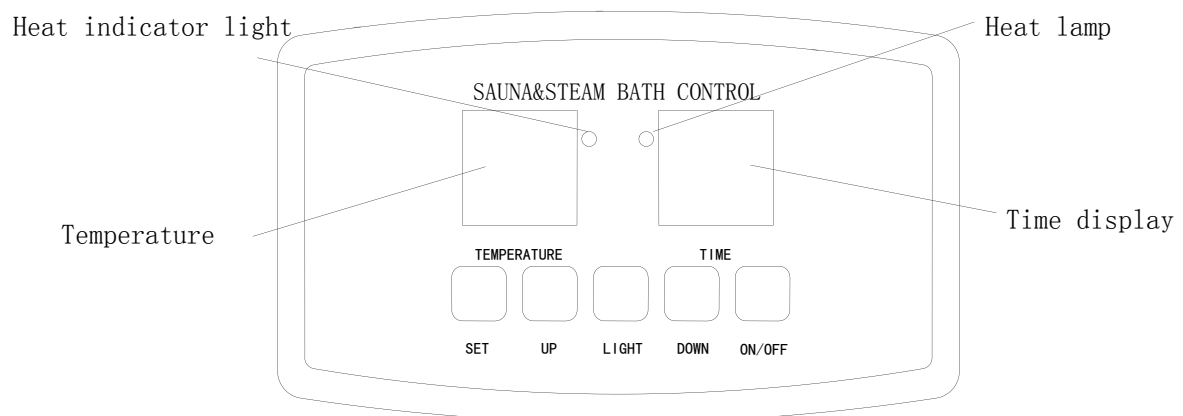

Figure 12
- 2, ST-135M controller's operation direction; Look at figure 12